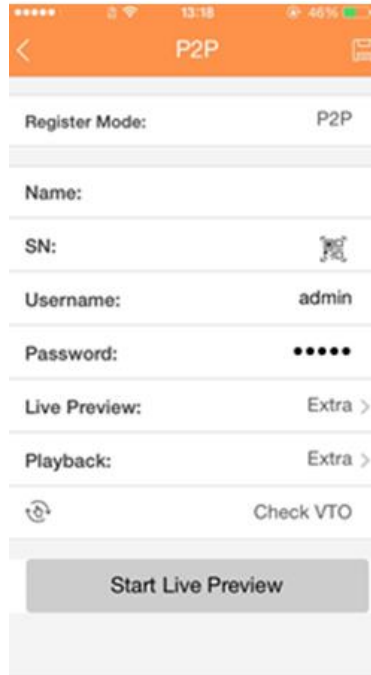

Figure 5-68
3. Tap Device manager button, you can use several modes (P2P/DDNS/IP and etc) to add the device. Click  to save current setup. Tap Start Live preview to view all-channel video from the connected device. See Figure 5-68.